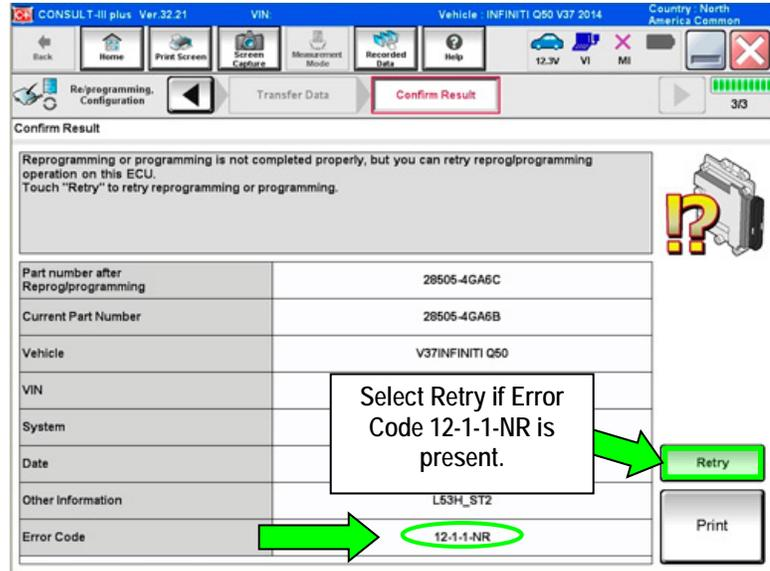

Figure 16
- If the progress bar freezes at 90% of a complete transfer to the plus VI and error code "12-1-1NR" is displayed as shown in Figure 16 on the next page, turn the ignition OFF, then ON, and then refer to Control Module Recovery on the next page.
If reprogramming does not complete and the “!” icon displays as shown in Figure 16: